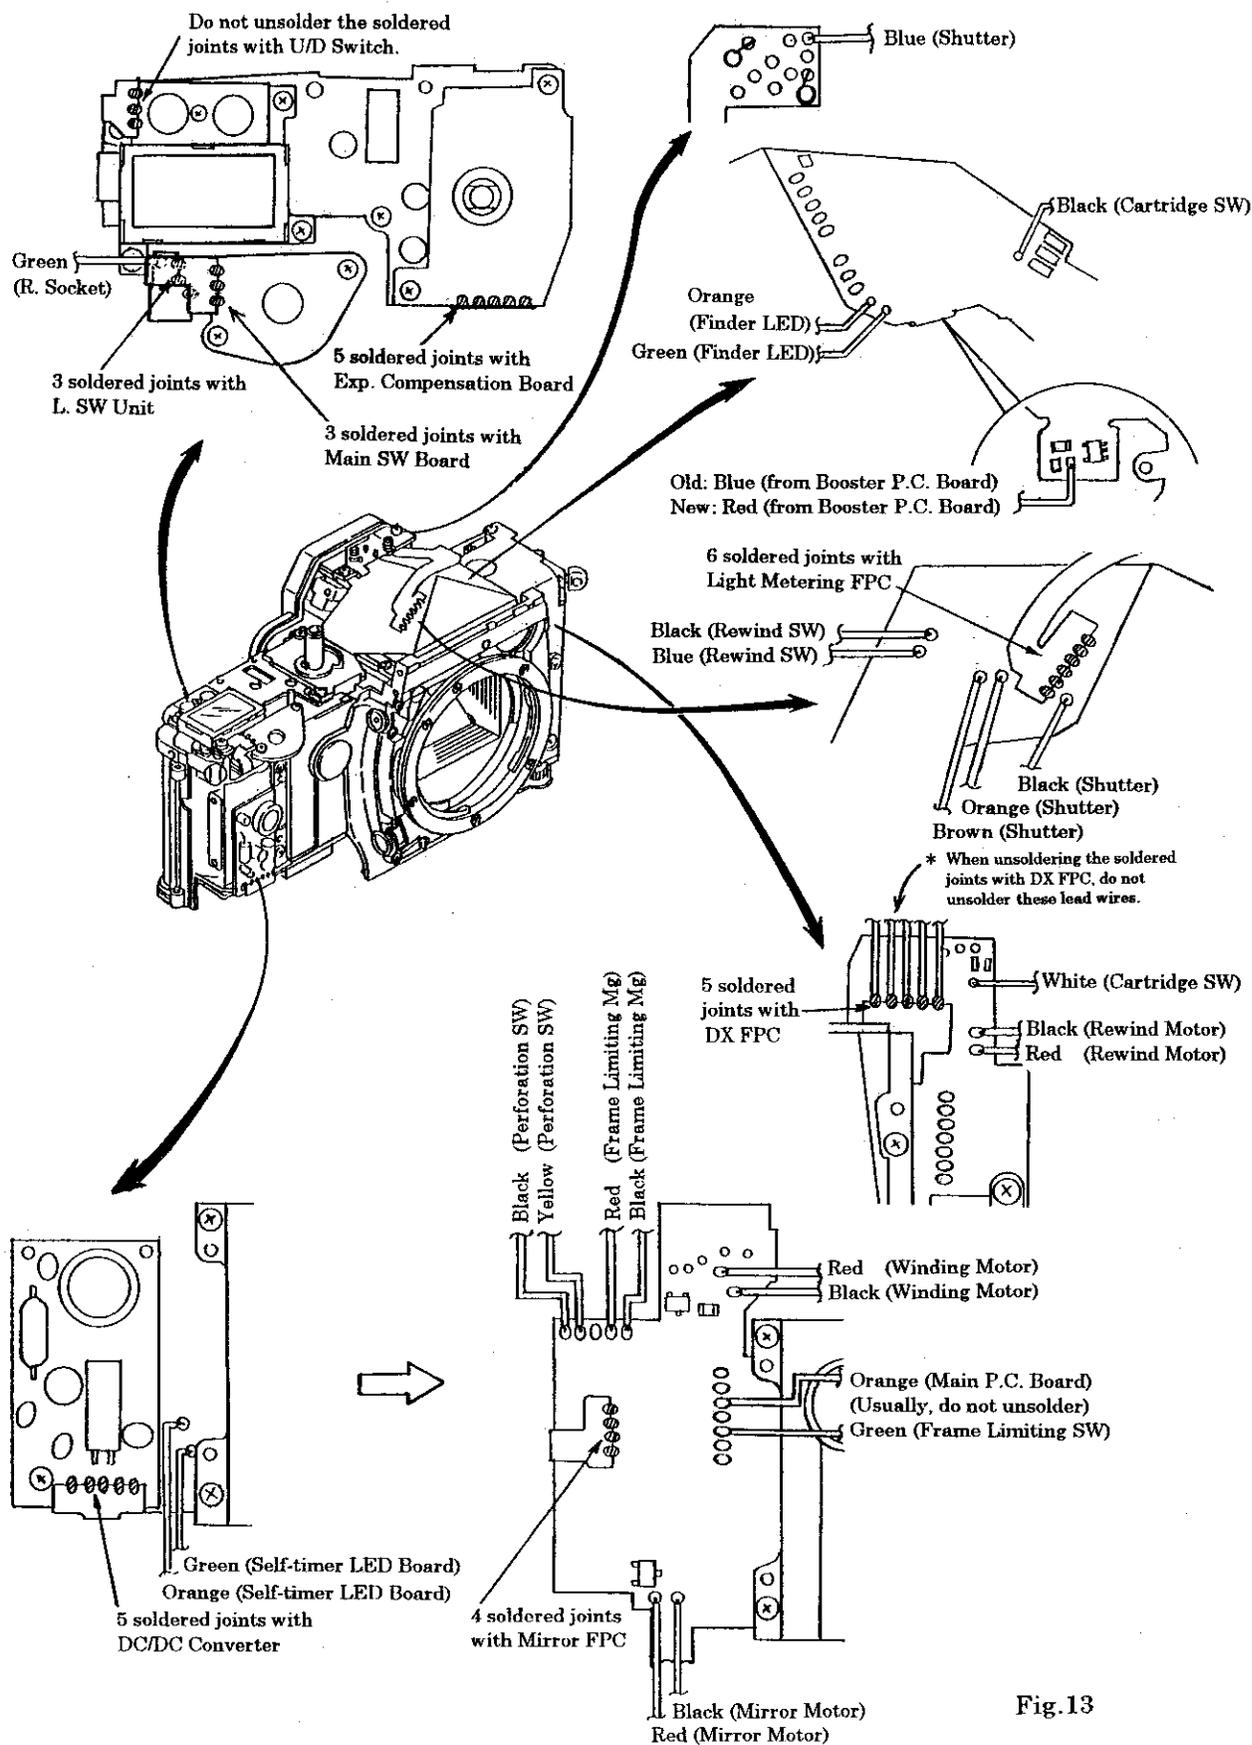

Fig. 13
**(Top Left of Body) (See Fig. 13)**